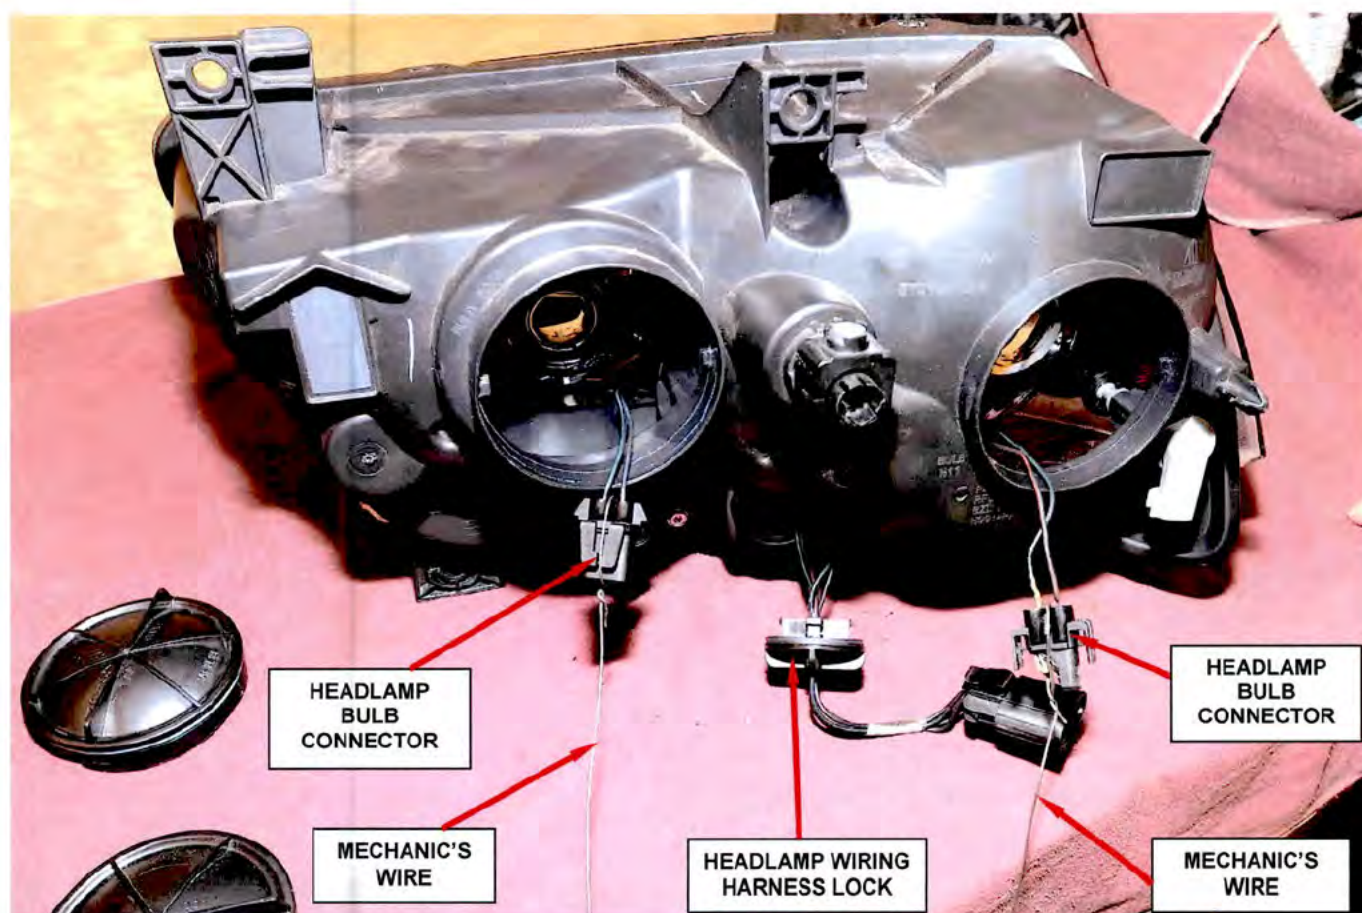

Figure 3 – Attach Mechanic's Wire to Headlamp Bulb Connectors
5. Using two 24 inch long pieces of mechanic's wire (or equivalent), connect one end of the mechanic's wire to each of the headlamp bulb connectors (Figure 3).
6. Unclip the 4-way headlamp wiring harness connector from the back of the headlamp housing (Figure 3).
7. Disengage the headlamp wiring harness lock on the headlamp housing by turning it $\frac{1}{4}$ turn counterclockwise (Figure 3).